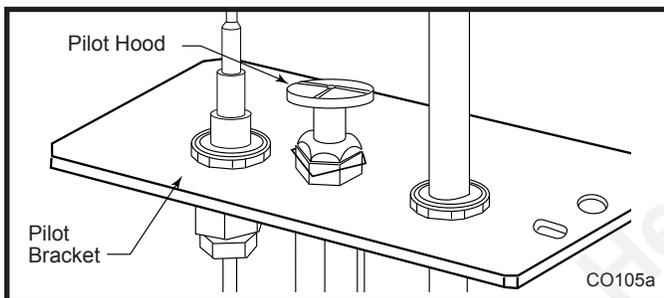

Fig. 74 Remove pilot hood.
- Remove pilot hood by lifting up. (Fig. 74) Do not remove snap ring to remove pilot hood. **NOTE:** It is not necessary to remove the pilot tube for conversion.